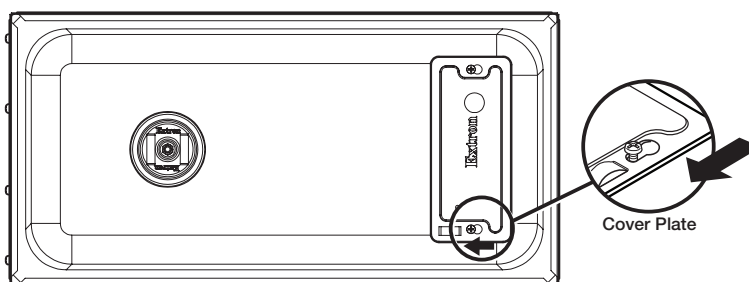

Figure 26. Removing the Cover Plate
6. **Remove the cover plate** — Loosen (do not remove) the two screws on the cover plate and remove it, as shown in figure 26.